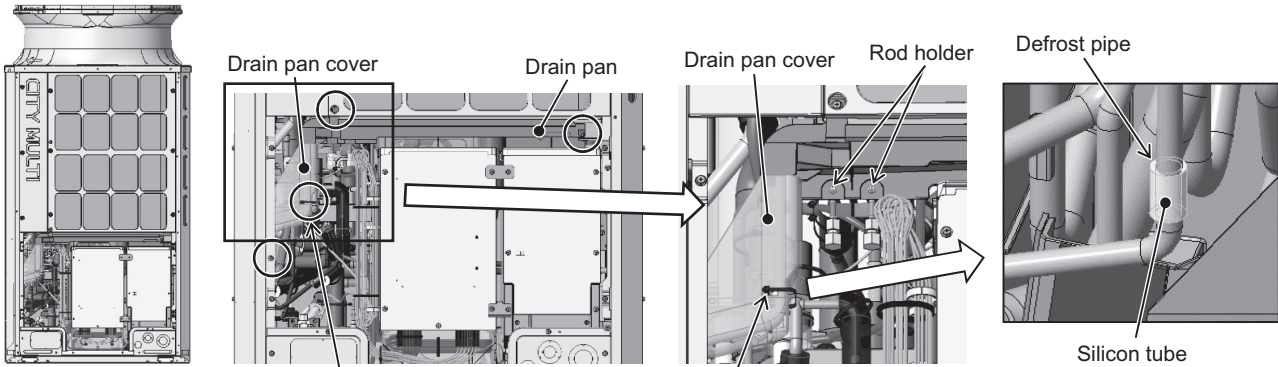

Figure 1 Cut the cable tie. Figure 2 Cut the cable tie. Figure 3
- (1) Remove the front panel from the unit by unscrewing the eight screws. (See Figure 1.) \*Figure 1 shows the unit without the front panel.